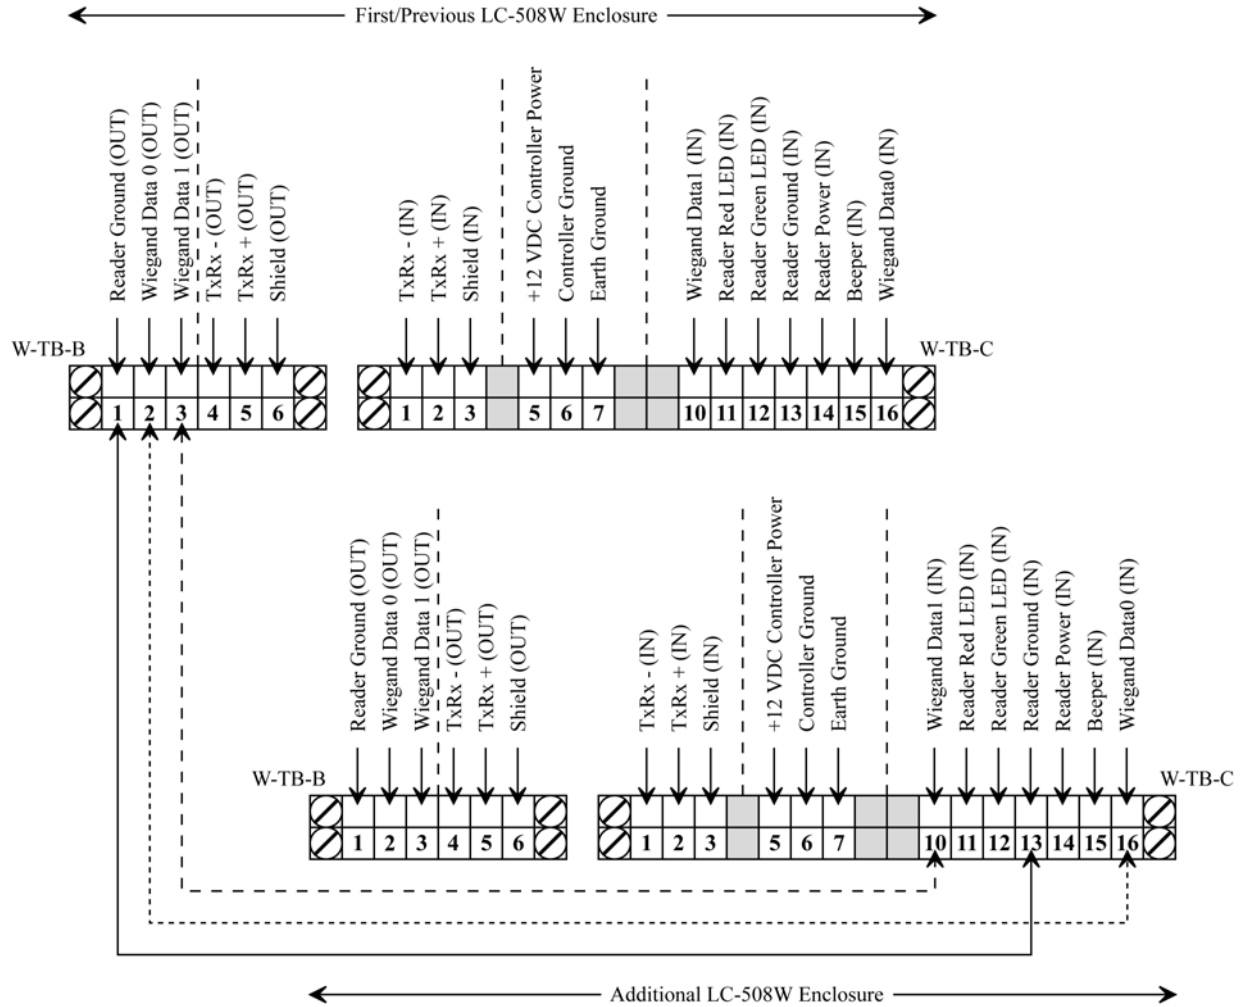

Figure 14: LC-508W to LC-508W Reader Wiring Connections
2. Daisy-chain the Data0, Ground, and Data1 reader connections from W-TB-B of the additional LC-508W panel to W-TB-C of the previous LC-508W panel. Make the connections per the information in Table 9 and Figure 14 on page 22.